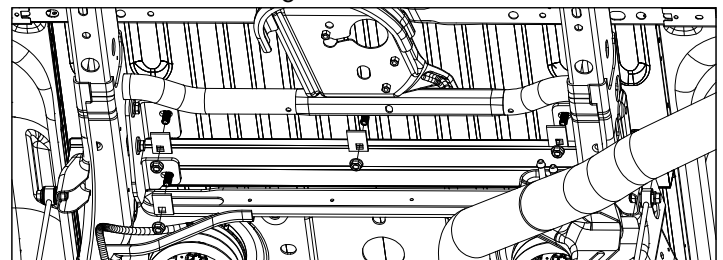
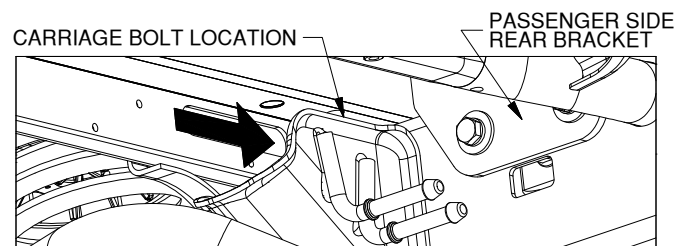

Figure C6: View looking up at the bottom of the truck bed.
Figure C7: View looking at passenger side frame and bed cross member
8. **Fasten the rear mounting rail.** Install an offset square hole washer and 1/2" flange nut on each of the carriage bolts passing down through the bed as shown in Figure C6. Do not tighten at this time. The passenger side 1/2" x 4 1/2" carriage bolt can be accessed from a space in the frame geometry next to the bolt, see Figure C7. Use the space to thread the offset square hole washer and 1/2" flange nut. Use a box end wrench to tighten this nut.